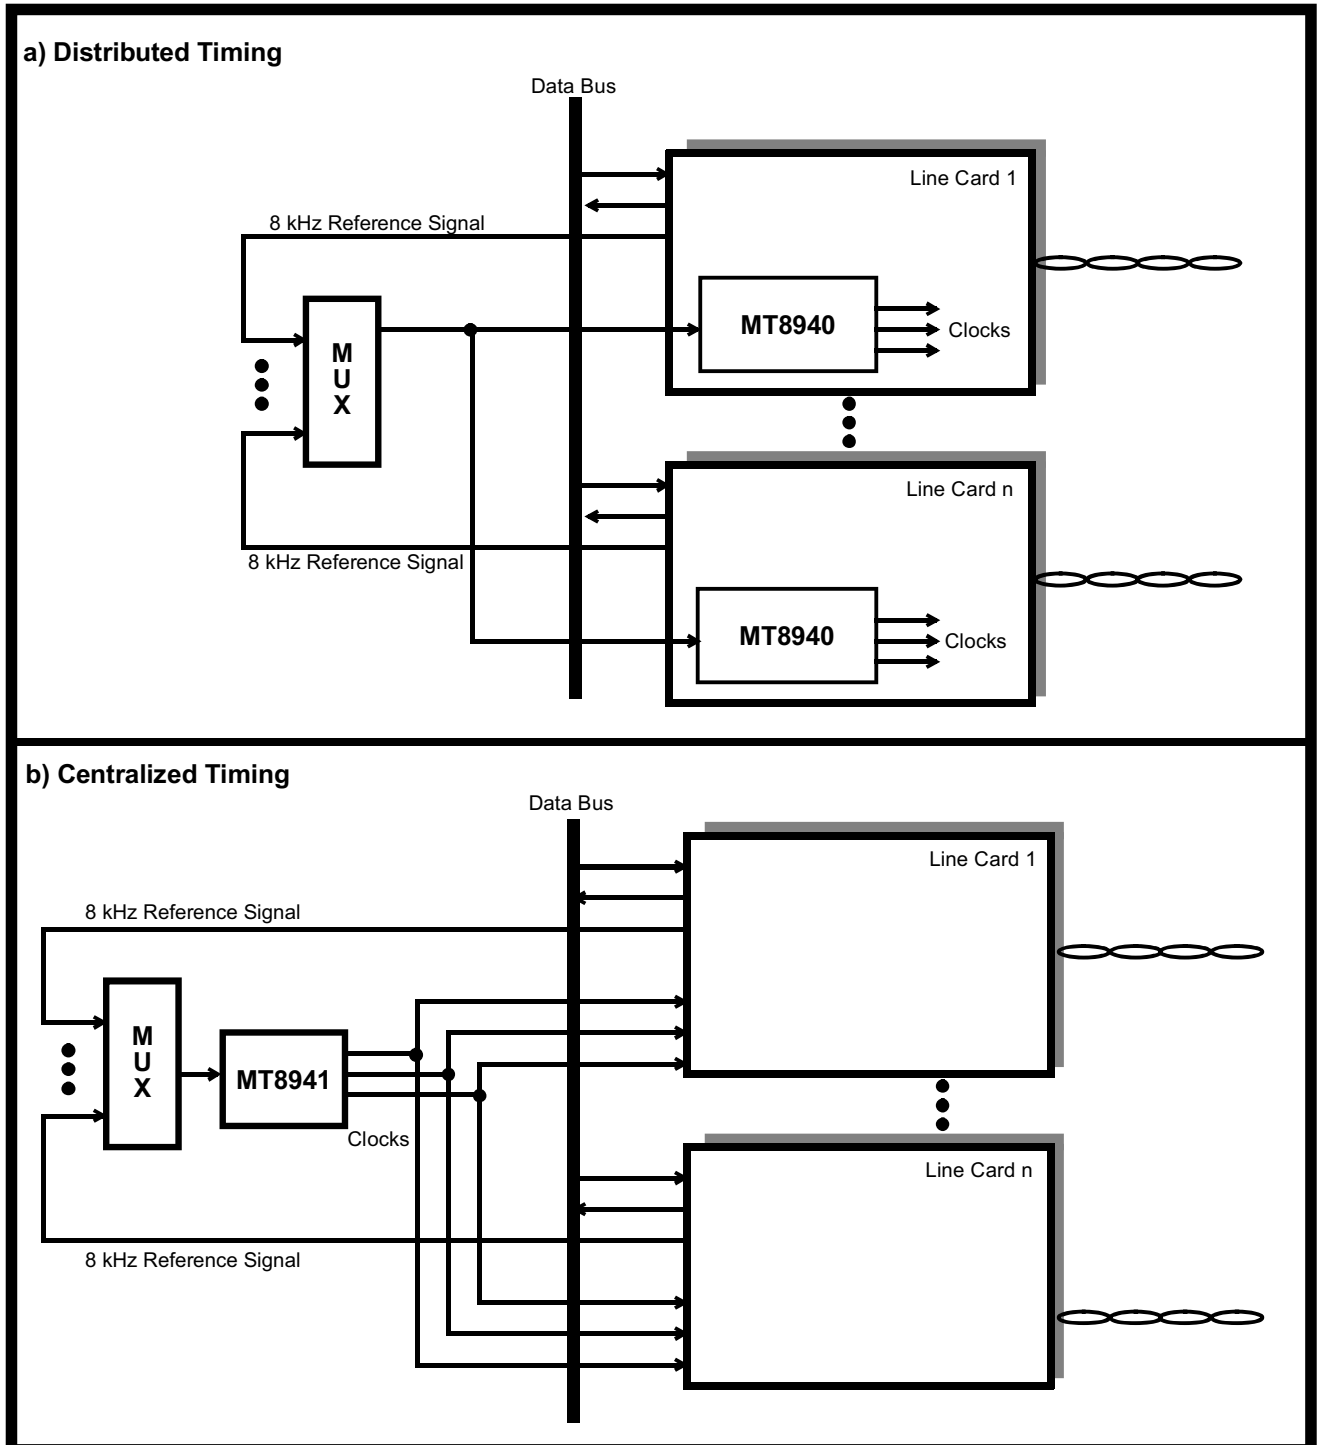

Figure 8 - Application Differences between the MT8940 and MT8941
2. The MT8941 includes a no-correction window to filter out low frequency jitter and wander as illustrated in Figure 4. Consequently, there is no constant phase relationship between reference signal \overline{FOi} of DPLL # 1 or C8Kb of DPLL #2 and the output clocks of DPLL #1 or DPLL #2. Figure 4 shows the new phase relationship between C8Kb and the DPLL #2 output clocks. Figure 8 illustrates an application where the MT8941 cannot replace the MT8940 and suggests an alternative solution.